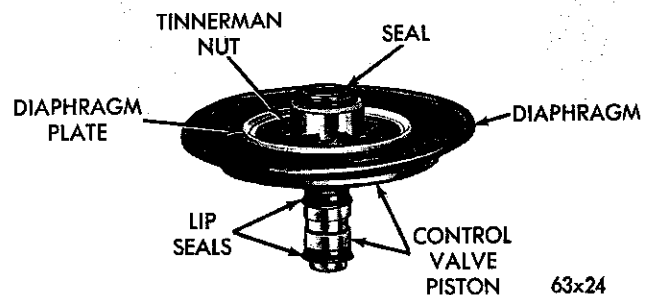

Fig. 42—Control Valve Assembly
(5) The control valve assembly consists of a piston assembly, a rubber diaphragm, a diaphragm plate and a Tinnerman nut (Fig. 42). The piston assembly consists of a spool section with two lip seals, and a flange section with a seal in a counterbore in the hub of the flange. The spool section and flange section are serviced as an assembly. Grasp the hub of the control valve piston and, with a rotating motion, pull the control valve assembly out of its seat in the slave cylinder housing. Pry up the corners of the Tinnerman nut to disengage them from the piston hub and remove the Tinnerman nut, diaphragm plate and diaphragm from the piston assembly. Remove the rubber seal from the counterbore in the hub of the piston assembly. Remove and discard the outermost lip seal on the spool section of the piston. The other lip seal on the spool section is serviced in assembly with the piston. (It cannot be installed after the spool